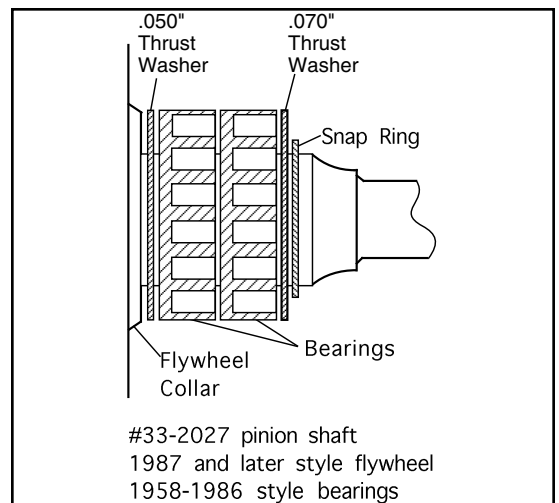

Figure 3
3. 1987 to 1989 big twin flywheels or S&S SL or BL flywheels for 1981 and later, and S&S pinion shaft 33-2027—one .070" thrust washer and one .050" thrust washer are normally used. Typical washer and bearing arrangement— .050" washer against flywheel, bearings, .070" washer, and snap ring. **See Figure 3.**